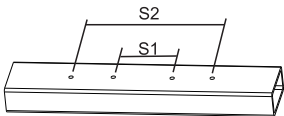

Figure 3
- 2. Drill two holes of distance S1 or S2 on the mounting bar (Figure 3)